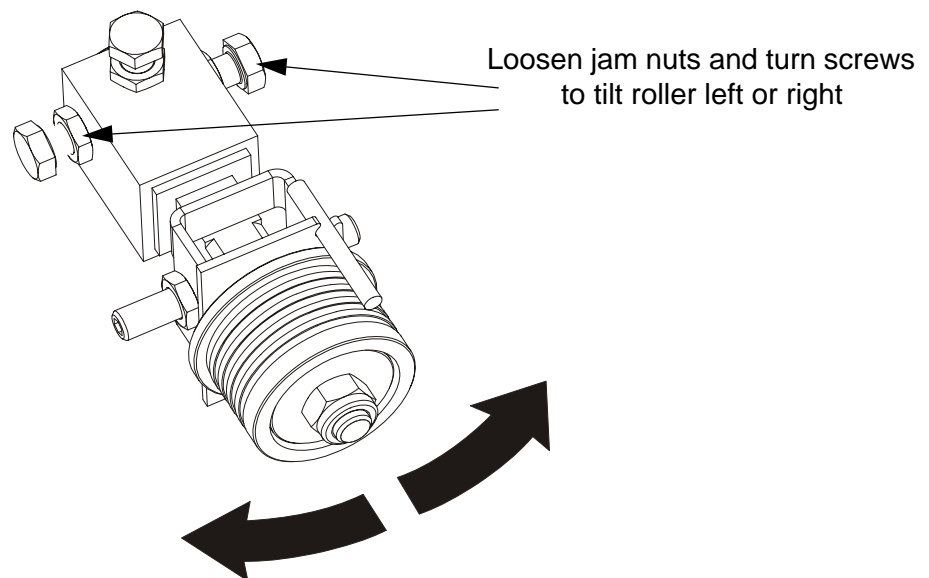

FIG. 6-30
**See Figure 6-30.** Loosen the jam nuts on the left and right horizontal tilt adjustment screws. To tilt the roller left, loosen the right screw and tighten the left screw. To tilt the roller right, loosen the left screw and tighten the right screw. Tighten the jam nuts and recheck the tilt of the blade.